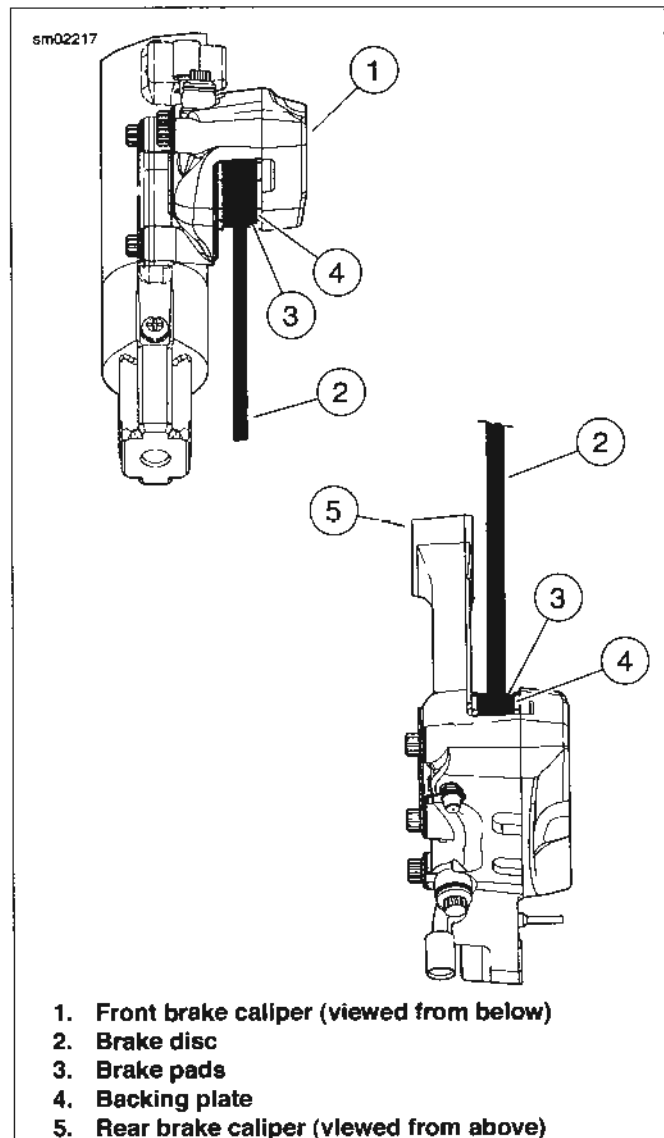

Figure 1-35. Brake Pad Inspection
See Figure 1-35. Replace brake pads (3) if brake pad friction material on either the front or rear caliper is worn to 0.04 in. (1.02 mm) or less above the backing plate (4). Always replace both pads in a caliper as a set. See 1.17 BRAKE PADS AND DISCS, Brake Pad Replacement.